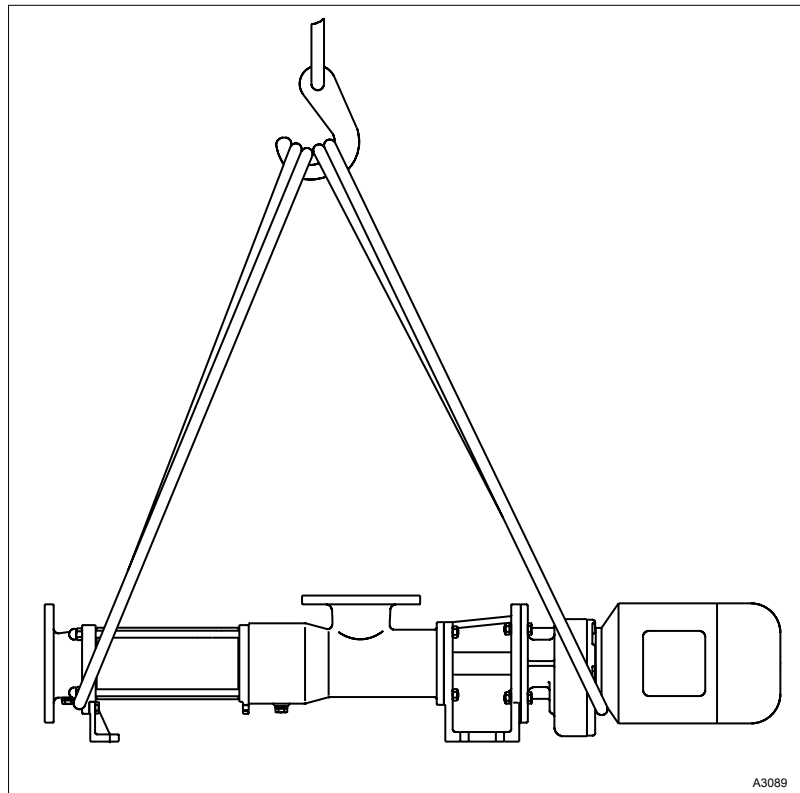

Fig. 2: Fastening the cable slings
1. ➔ Fasten the cable slings as follows when transporting the unit by crane, Fig. 2